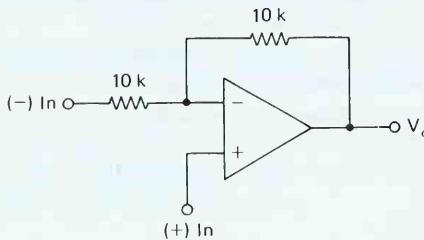

FIGURE P3-15
- 3-15. A 5-V peak-to-peak sine wave, E_i , is applied to $(-)$ In of Fig. P3-15. Plot V_o vs. E_i if voltage at $(+)$ In is (a) +5 V; (b) -5V.
- 3-16. A 5-V peak-to-peak sine wave, E_i , is applied to $(+)$ In of Fig. P3-15. Plot V_o vs. E_i if the voltage of $(-)$ In is (a) +5 V; (b) -5 V. (Assume that $\pm V_{sat} = \pm 15$ V.)